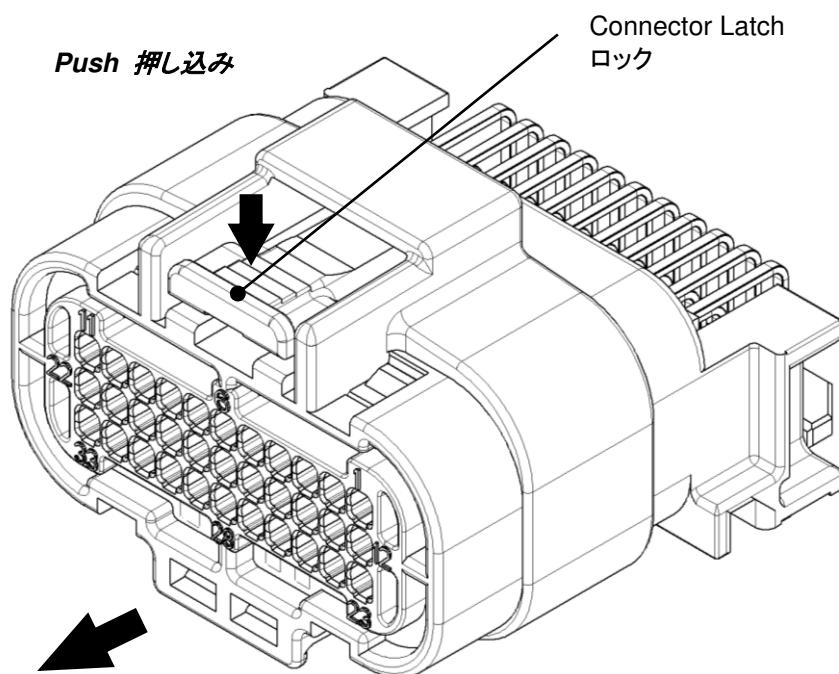

Fig.22
(1) Push the lock arm toward the connector to release the lock from the male housing with holding the female housing. Pull the female housing from the male connector until fully disengaged. (See Fig.22)
メスハウジングをつかんだ状態でロックを押し下げて解除し、メスコネクタを引き抜きます。(図 22 参照)